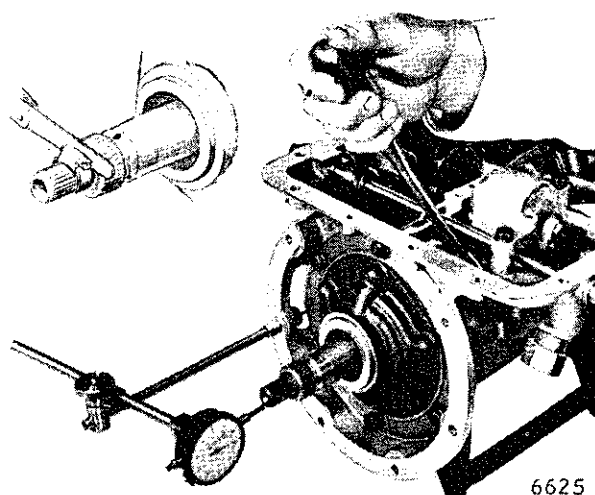

Fig. 51—Measuring input shaft end float (Inset shows alternative method using a hose clip and feeler gauges)
(1) Install the dial indicator to read the input shaft end float as shown in Fig. 51. The shaft end float should be within 0,25-0,76 mm (.010"-.030").
(2) Adjust if necessary by installing a new selective washer of correct thickness where required.